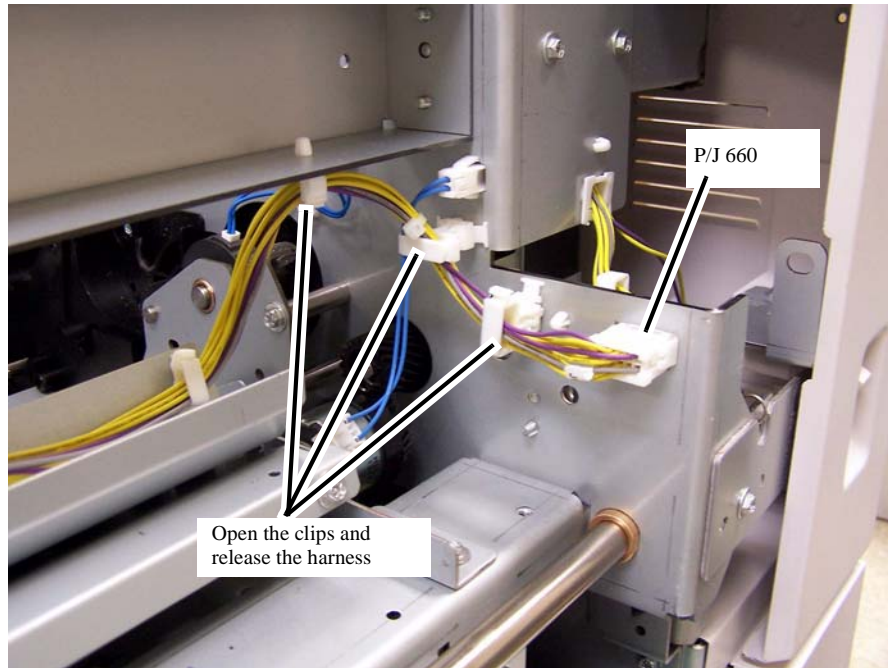

Figure 3 Harness and connector location
- b. Open the 3 harness clips, disconnect J 660, and release the harness from the clips (Figure 3).